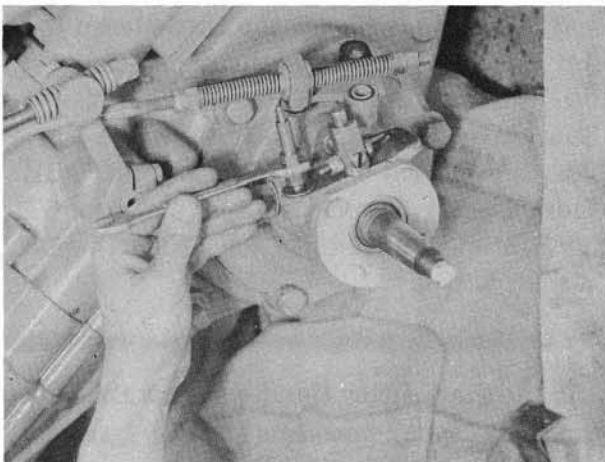

Figure 45
23. Install Stationary Pivot Pin (6725) into the Axle Housing as shown in Figure 45.